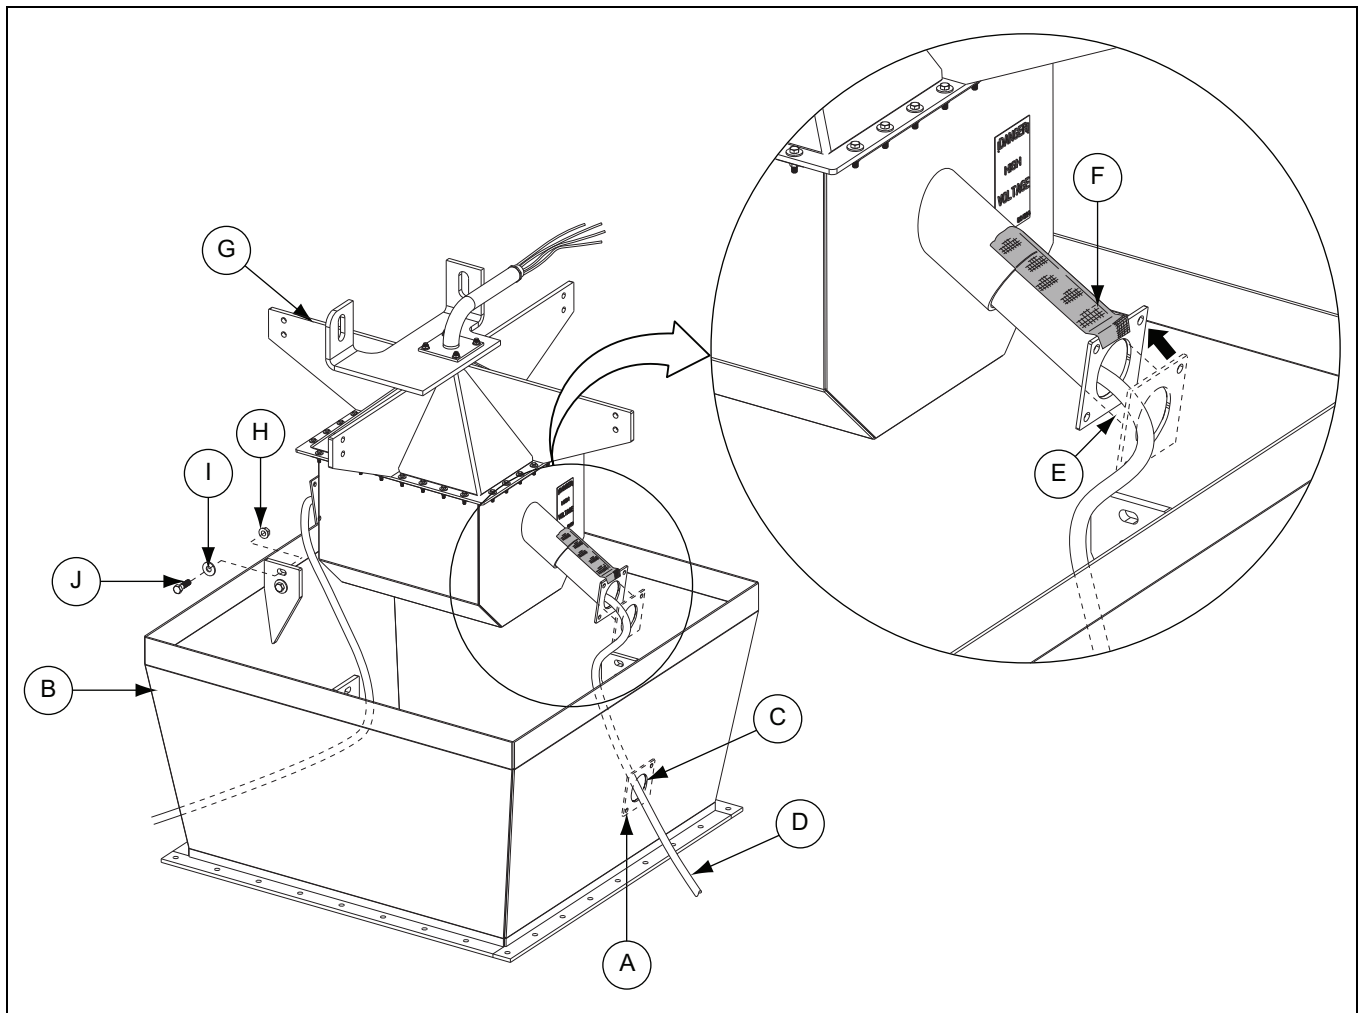

Figure 6D
3. Determine the correct hole size needed for each lower flex conduit (D) and drill hole (C) from the center of the traced outline (A). *(See Figure 6D.)*